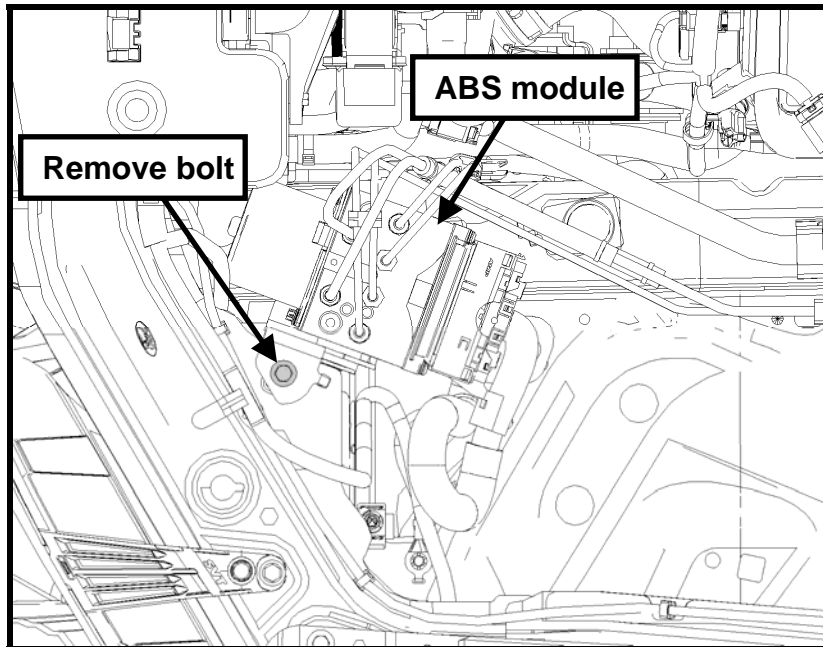

Fig. 33
**STEP 17:** Locate the ABS module bracket and remove the bolt shown below (See Fig. 33).